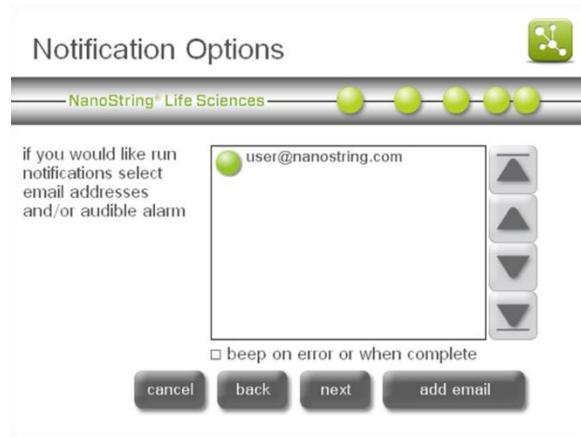

Figure 31: The ‘Notification Options’ screen.
13. The ‘Notification Options’ screen will appear (**Figure 31**).